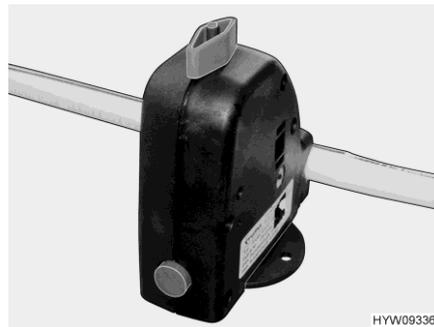

Fig. 131 Safety/drainage valve
- Open the safety/drainage valve (Fig. 131). To do this, turn the knob (Fig. 131) parallel to the safety/drainage valve.